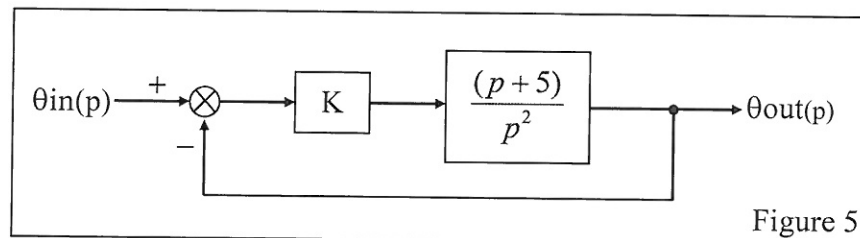

Figure 5
- 4.2 For an aircraft position tracking control system shown in figure 5,